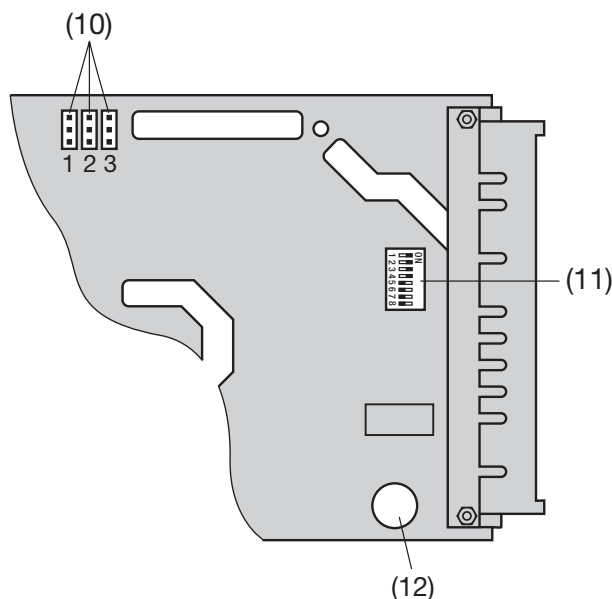

Fig. 5. Rear part of EURAX V 604 showing the jumper pins (10), the eight-way DIP switch (11) and the supply fuse (12).
Connect the measuring input leads to suit the **type of measurement or application** (see Table 5) and fit jumper plugs **A** and **B** on the jumper pins accordingly. The location of the jumper pins (10) on the plug-in unit can be seen from Fig. 5.
Select the type of output signal by setting the DIP switches (11) as given in Table 7 (see Fig. 5).